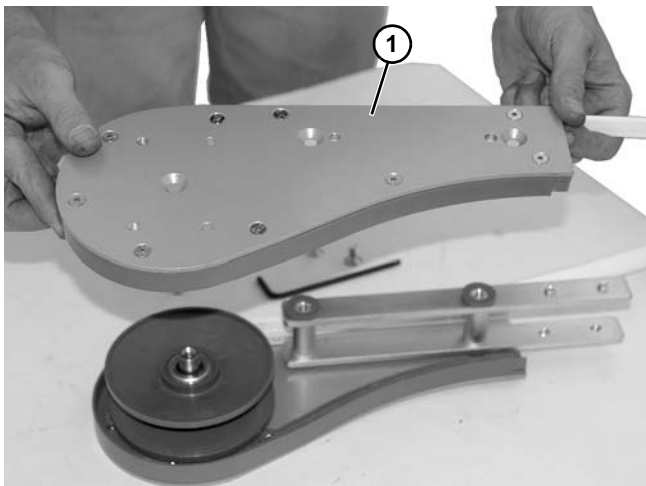

Figure 107
3. Remove the head plate (Figure 107, item 1) from the idler end.